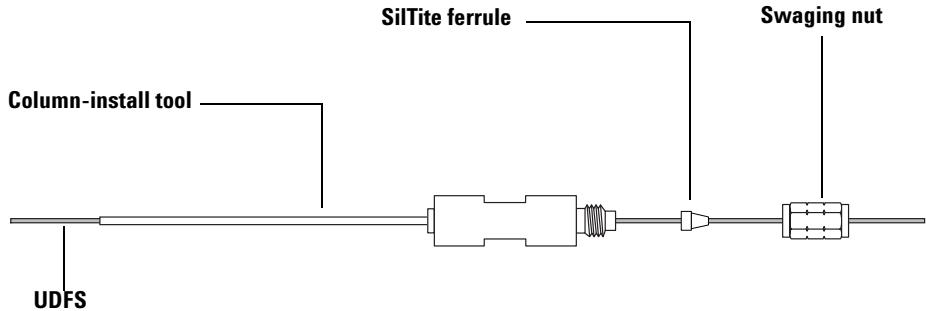

Figure 5 Creating a custom restrictor
- 2 Slide the swaging nut (G2855-20555), a SilTite ferrule of appropriate size (see Table 9 on page 75), and the column-install tool onto the UDFS as shown in Figure 5. Be sure to orient the ferrule as shown, with the narrow end facing the swaging nut.